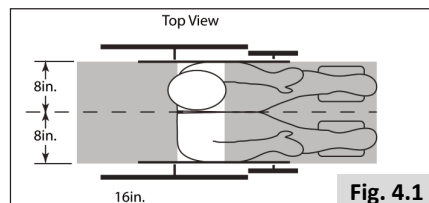

Fig. 4.1
3. The recommended clear zones for wheelchair seated occupants restrained by both pelvic and upper-torso belt(s) and only by a pelvic belt are shown in the diagrams (Fig. 4.1 and 4.2) and described below. Frontal Clear Zones (FCZ) need to be larger when upper torso belt(s) are not used. The Rear Clear Zone of 16-in (40.5 cm) is measured from the rearmost point on an occupant's head. The Frontal Clear Zone is measured from the front most point of an occupant's head and is 26-in (66 cm) with pelvic and upper-torso belt(s) and 37-in (94 cm) with only a pelvic belt. The frontal clear zone may not be achievable for wheelchair-seated drivers.